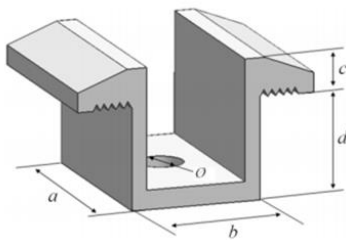
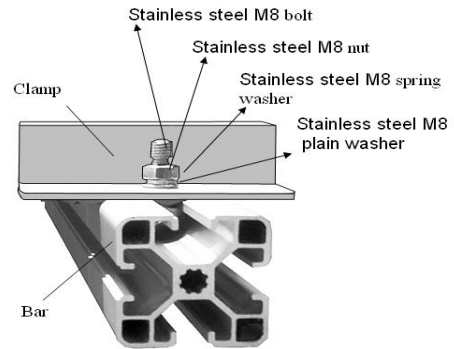

Figure 10 Schematic diagram of intermediate pressing block
Figure 11 Schematic diagram of side pressing block
- ③ The bar's top surface contacted with module frame should come with grooves compatible with an M8 bolt.
- ④ If the bars do not come with grooves, holes of a suitable diameter may need to be drilled to allow bolts to be attached to the bars at the same locations as mentioned above.
- ⑤ Secure each clamp by attaching plain washer, spring washer, and nut, in that order.
- ⑥ Both of close-ups of Figure 10, indicating the middle clamps and Figure 11, indicating the side clamps for reference. Suggest the dimensions for middle clamps are: $a \geq 40\text{mm}$, $b \geq 26\text{mm}$, $c \geq 5\text{mm}$, $d \geq 28\text{mm}$, and $\phi = 9\text{mm}$. The torque for tightening the nut and bolts are recommended 17~23Nm when the property class of bolts and screws is Class 8.8.